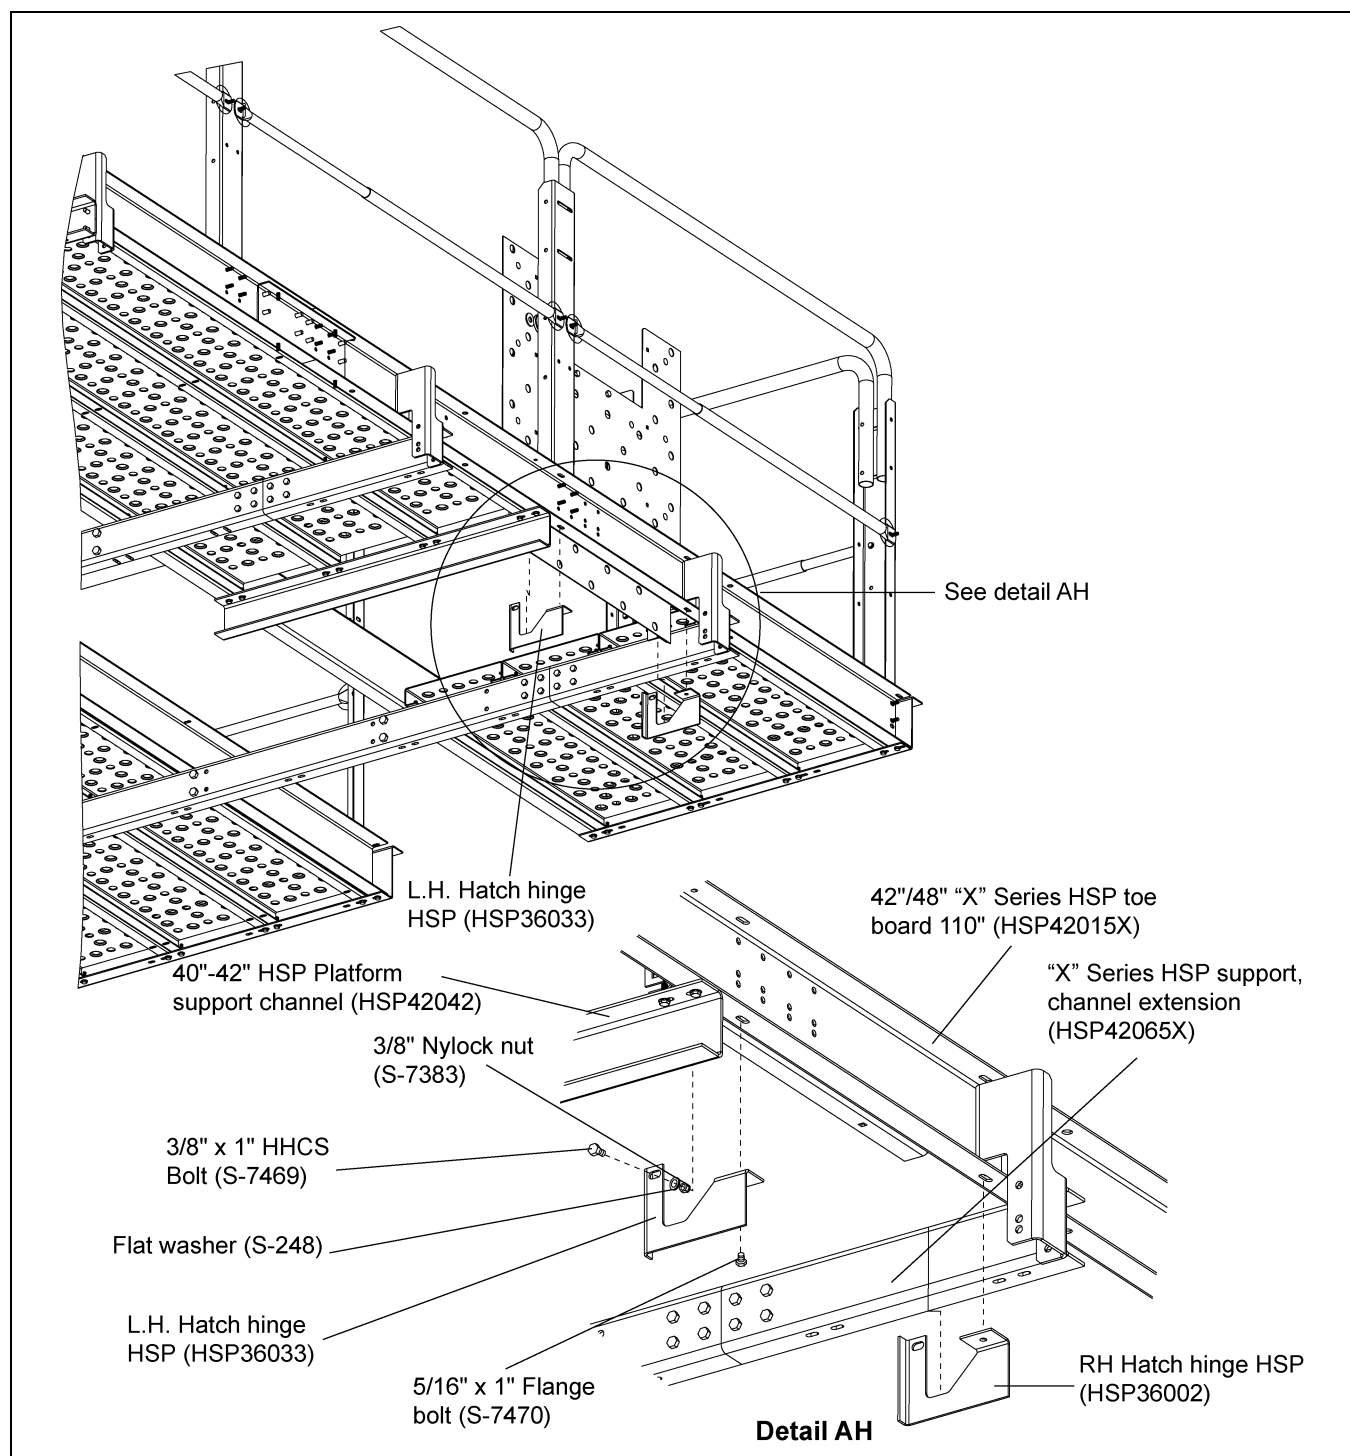
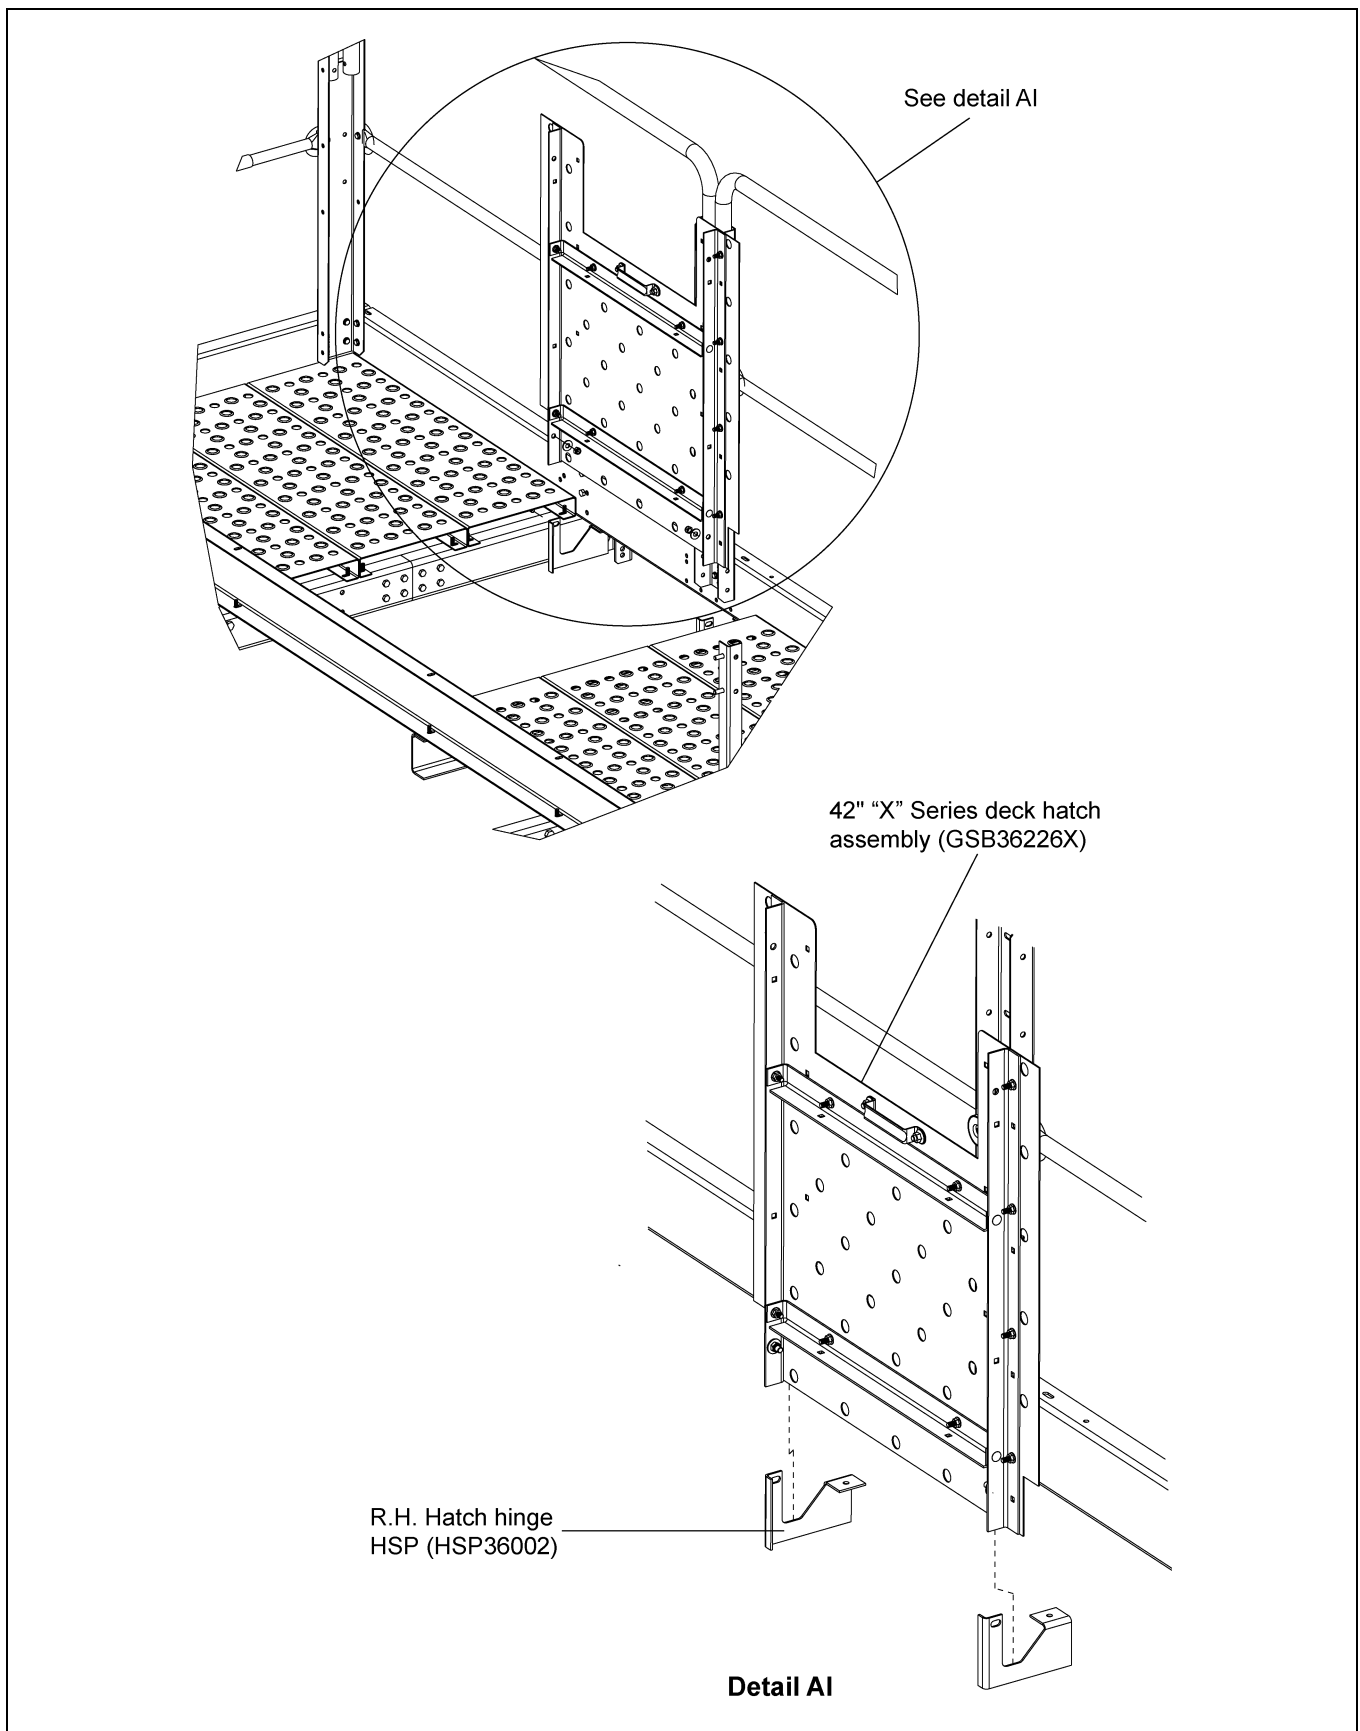

Figure 8R
Figure 8S
2. Align the hinges (HSP36033 and HSP36002) to the inside of the deck hatch hinge angles (GBS36226X) already assembled to the hatch. *(See Figure 8R below and Figure 8S on Page 69.)*